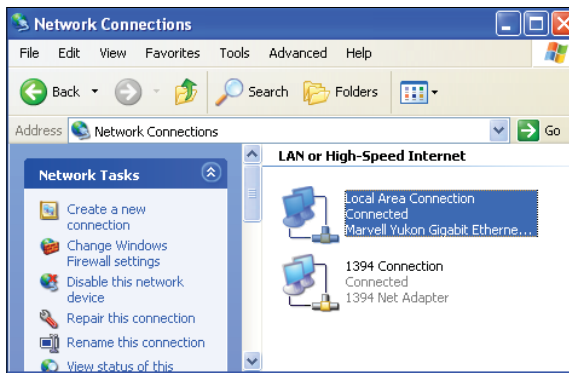

Figure 9: Network Connections Window
- 5.) In the *Connection Items List Box*, be sure the Internet Protocol (TCP/IP) is checked (**Figure 9**). (In Vista, this will be TCP/IP v.4.) Click Internet Protocol (TCP/IP v.4) to highlight it and then click <Properties>. The *Internet Protocol Properties Window* will appear.